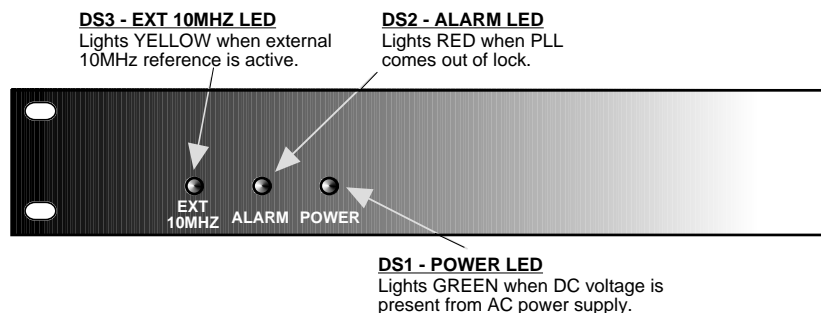

FIGURE 2.2 2116-44# Front Panel Controls and Indicators
- 4.) Be sure DS1 (green, DC Power) is on and DS2 (red, Alarm) is off (Figure 2.2).
- 6.) If EXT is selected or AUTO is selected and there is a 10MHz, 0 dBm signal at J2, check that DS3 (yellow, Ext 10MHZ) is on (Figure 2.2).